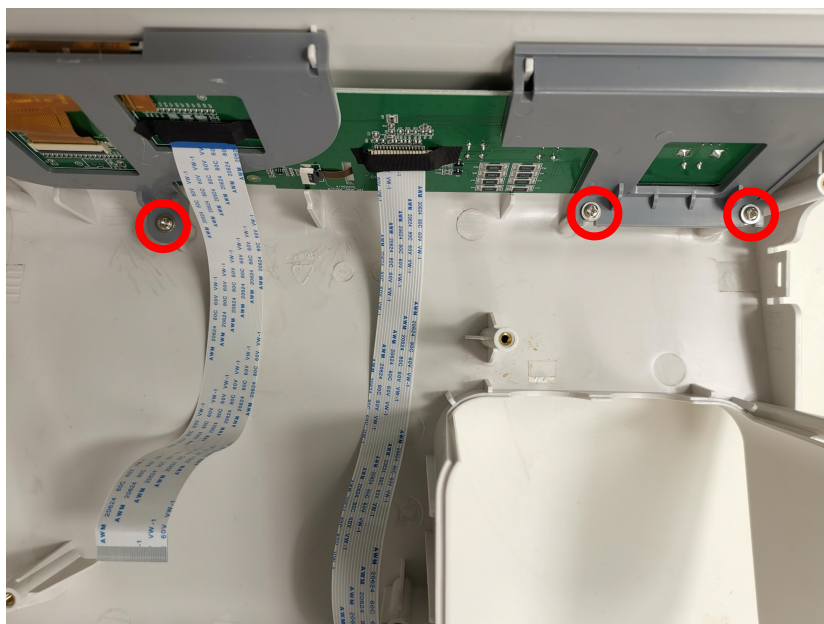
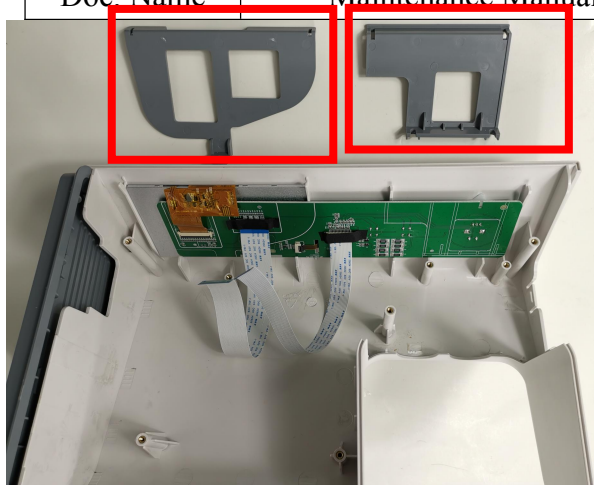

Figure3-2-5
Figure3-2-6
⑤ Use a Phillips screwdriver to remove the 3 screws marked in the red circle in Figure 3-2-5, and remove the two brackets that fix the key board (as shown in Figure 3-2-6).
⑥ Use a Phillips screwdriver to remove the 3 screws marked in the red circle in Figure 3-2-5, and remove the two brackets that fix the key board (as shown in Figure 3-2-6).